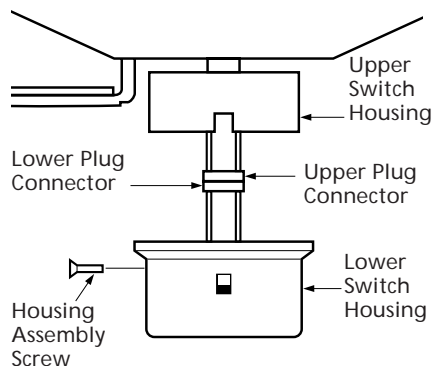

Figure 7f - Plug Connection and Lower Switch Housing Installation
1. Connect the upper plug connector from the motor to the lower plug connector in the lower switch housing assembly. See Figure 7f.
2. Place the lower switch housing assembly over the upper switch housing. Align the side screw holes in the upper and lower switch housings. Attach the lower switch housing to the upper switch housing with three #6-32 x 3/8" housing assembly screws. See Figure 7f.
7. Connect the upper plug connector from the motor to the lower plug connector in the lower switch housing assembly. See Figure 7f.
8. Place the lower switch housing assembly over the upper switch housing. Align the side screw holes in the upper and lower switch housings. Attach the lower switch housing to the upper switch housing with three #6-32 x 3/8" housing assembly screws. See Figure 7f.